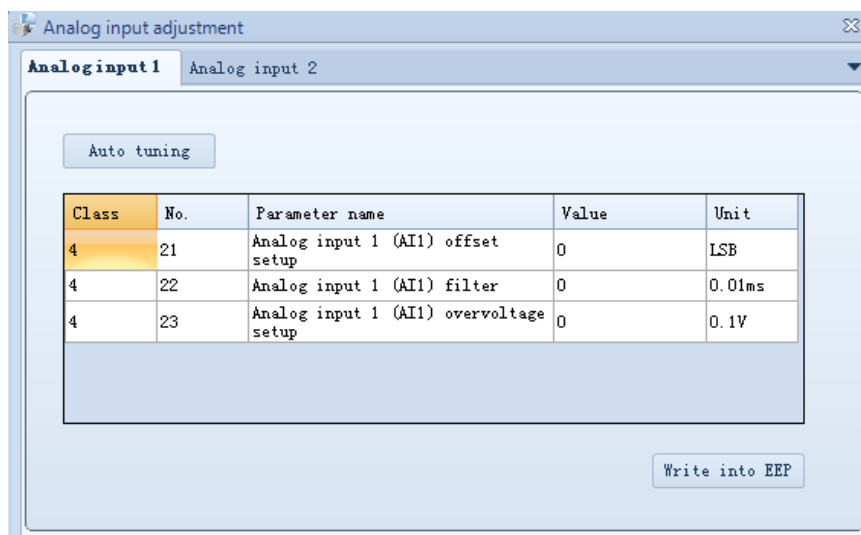

Fig. 10-3 Analog input adjustment window
1. Click “Analog input adjustment” in the pull-down list of “Other”. A dialog box will pop up (See Fig. 10-3)